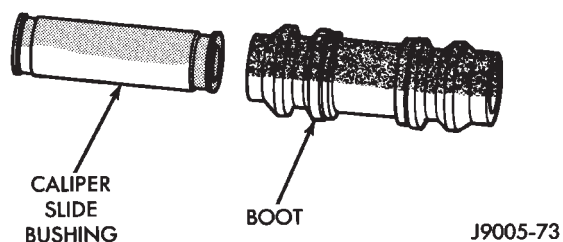

Fig. 68 Mounting Bolt Bushing And Boot
(7) Remove caliper mounting bolt bushings and boots (Fig. 68).